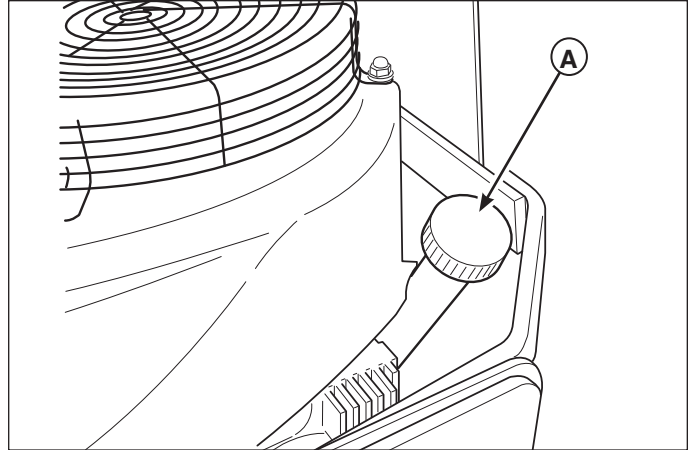

Figure 12. Pre-start Checks
1. Use the dipstick (A, Figure 12) to check the engine oil level. If necessary add engine oil. Check engine manufacturer's owner's manual for oil recommendations.